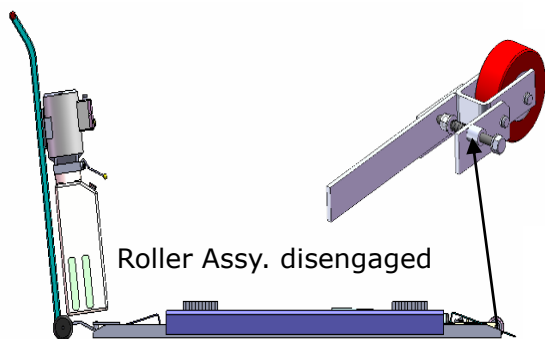

Fig. 19
2. The roller assy. must be disengage when lifting vehicle (**See Fig.19**).
5. Move lift: Pull up roller bracket, lock two roller assy. to the lift with roller shaft. (**See Fig. 19& 20**). Moving the lift by the power unit stand.